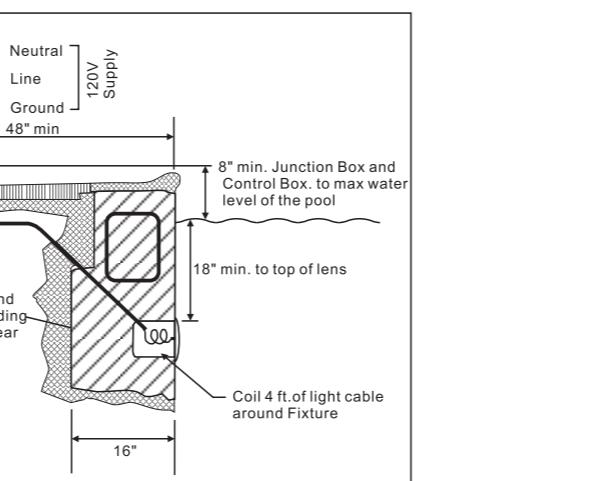
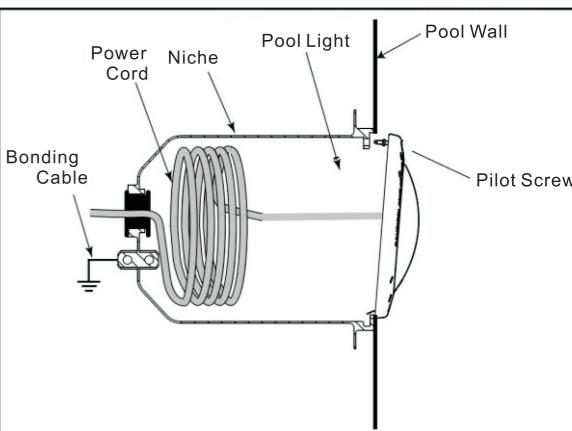

Figure 1
Figure 3
2. The junction box (or, for 12 volt models, the low voltage transformer) must be located at least eight (8) inches above water level, at least four (4) inches above ground level, and at least four (4) feet from the edge of the pool. See Figure 1.
3. The light fixture and all metal items within five (5) feet of the pool must be properly electrically bonded to a reliable point of grounding.
4. The wet niche must be properly installed so that the top edge of the underwater light's lens is at least 18 inches below the surface of the water in the pool. See Figure 1.
5. The wet niche must be properly electrically bonded and grounded via the No. 8 AWG ground connector located at the rear of the niche. See Figure 1.
1. Feed cord through conduit to junction box, leaving at least four (4) feet of cord at the light fixture to coil into the base of the light niche, see Figure 1. The four (4) feet of cord allows the light to be serviced after the pool is filled with water.
2. Cut the cord at the junction box, leaving at least six (6) inches of cord to make connections.
6. Engage the retainer tab on the bottom of light back, then pivot the top of the fixture inward and tighten the special pilot screw. See Figure 3
4. Feed cord through conduit to junction box, leaving at least four (4) feet of cord at the light fixture to coil into the base of the light niche, see Figure 1. The four (4) feet of cord allows the light to be serviced after the pool is filled with water.
5. Cut the cord at the junction box, leaving at least six (6) inches of cord to make connections.
9. Engage the retainer tab on the bottom of light back, then pivot the top of the fixture inward and tighten the special pilot screw. See Figure 3